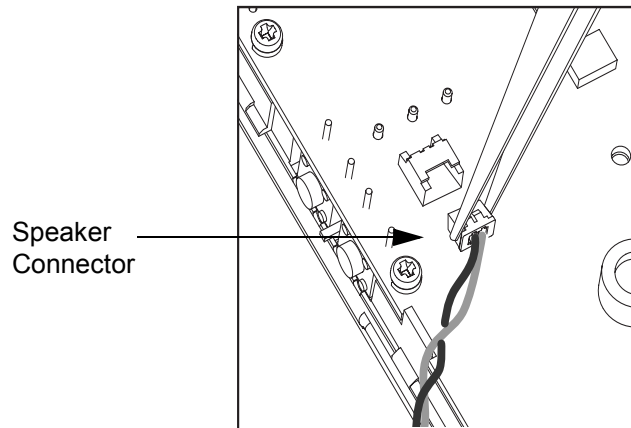

Figure 2-12
9. Connect the internal speaker connector to the PC board (“see “Figure 2-12”).